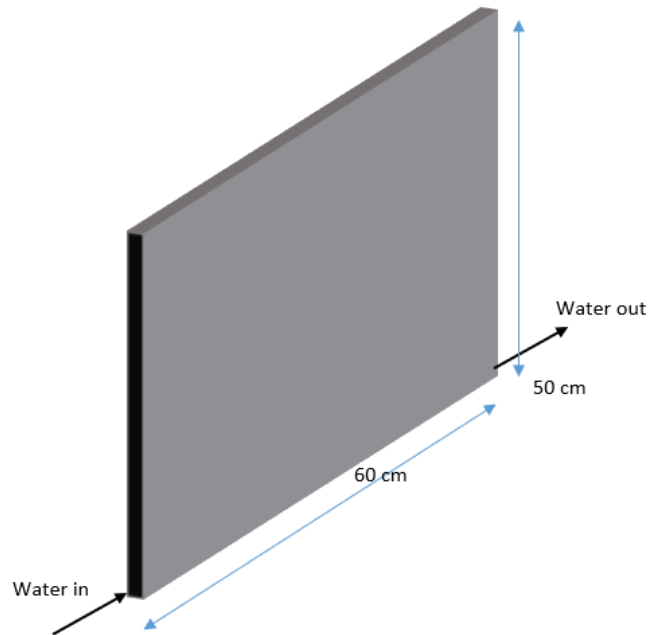

Figure Q2
- (c) A radiator, indicated in Figure Q2, has a surface temperature which may be regarded as uniform across the surface of 60°C . The air temperature far from the radiator when the heating is started is 15°C . Use the Nusselt number correlations in part a) to calculate the heat transfer coefficient and the heat transfer from one side of the radiator. Use tables p. 16 for the properties of air.